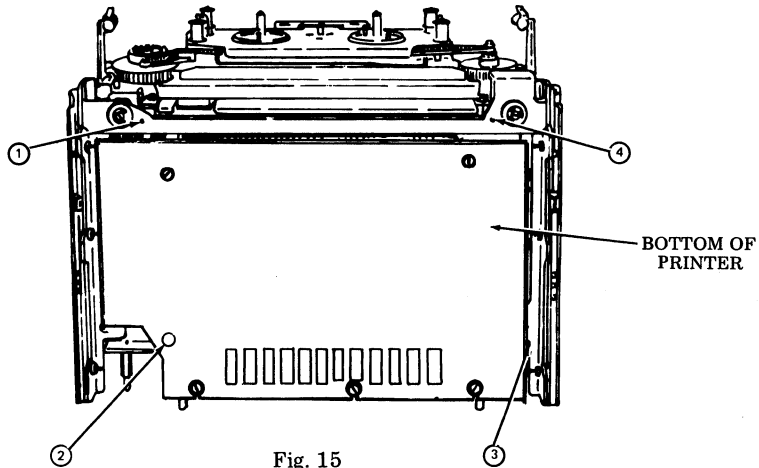

Fig. 15
- Step 2. Position printer on its back. Immobilize unit vibration mounts by tightening the four immobilizing screws. See Fig. 15.